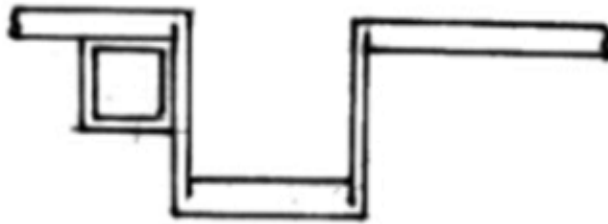

Figure 3
8. Figure 3 shows the innermost cam as it hit the innermost spreader beam and stopped the camshaft from further sliding outwardly.